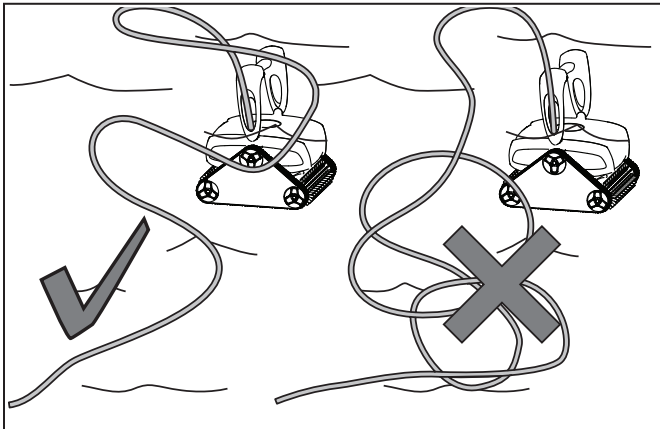

Figure 13. Spread Floating Cable Over the Pool
- Spread the floating cable over the pool, making sure there are no kinks or coils in the cable (see Figure 13).